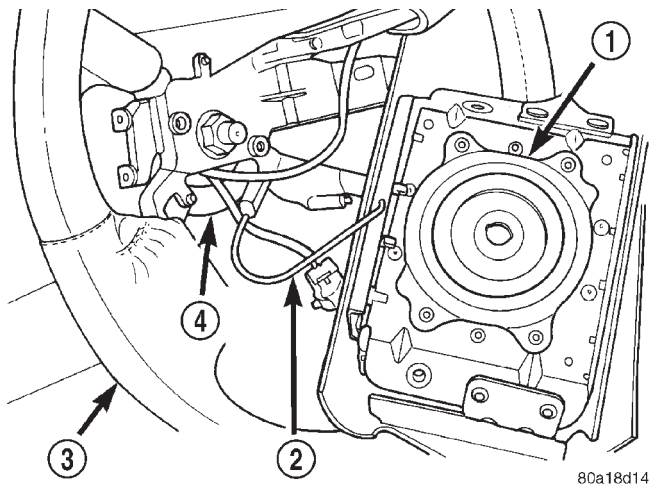

Fig. 14 Horn Switch Wiring Lead
(15) Remove the wiring lead for the horn switch in the airbag module (Fig. 14) from the wiring lead coming from the clockspring.